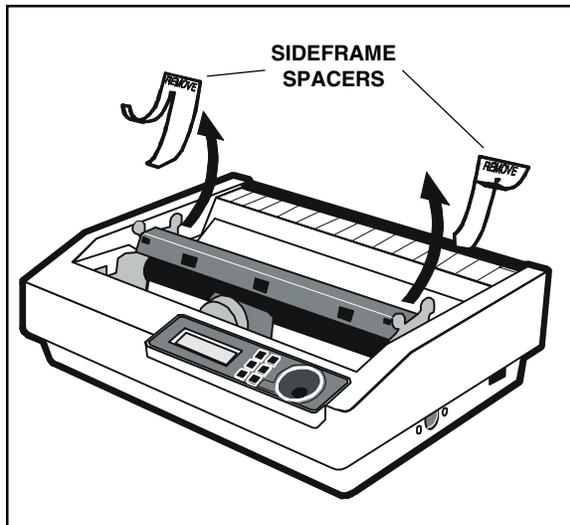

Figure 1-3. Removing the Sideframe Spacers
3. Remove the sideframe spacers, as shown in figure 1-3.